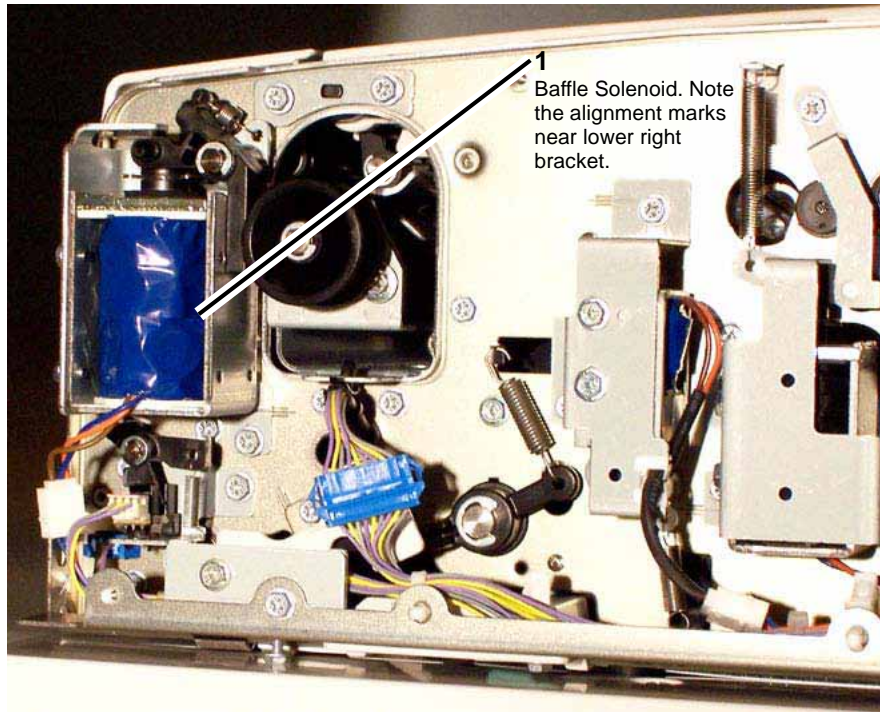

Figure 2 Baffle Solenoid
5. At the front of the DADF, remove the Baffle Solenoid. PL 14.7 Figure 2
- b. Remove the (2) securing screws.